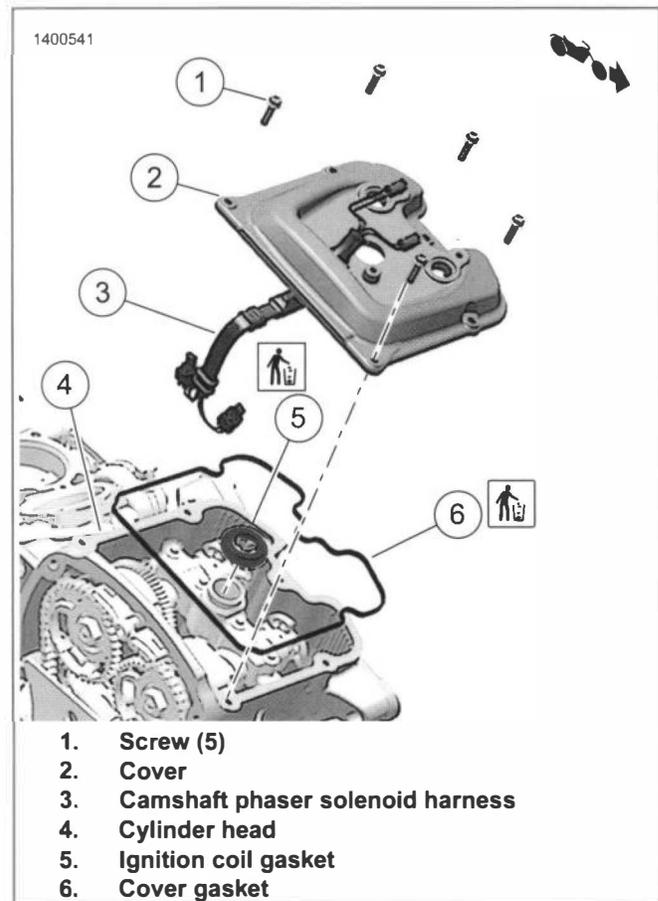

Figure 4-18. Cylinder Head Cover
1. See Figure 4-18. Remove screws (1).
2. Remove cover (2).
- a. Route camshaft phaser solenoid harness (3) through cylinder head (4).
3. Remove and discard ignition coil gasket (5).
4. Remove and discard cover gasket (6).
1. See Figure 4-18. Install **new** ignition coil gasket (5) to cylinder head (4).
- a. Clean groove in cover (2) from all residual oil and debris.
- b. Install **new** cover gasket (6) to cover (2).
- c. Route camshaft phaser solenoid harness (3) through cylinder head (4).
- d. Install cover (2) and screws (1). Tighten.